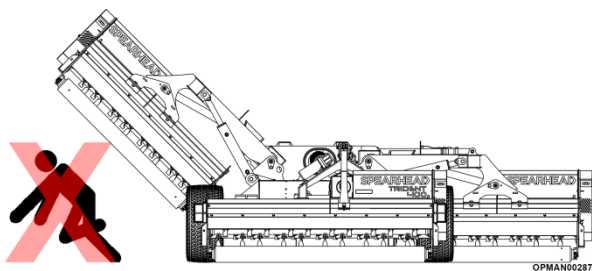

Figure 5.52
5.6.2.1 Clear the area of all personnel before lowering the wings; see Figure 5.52.